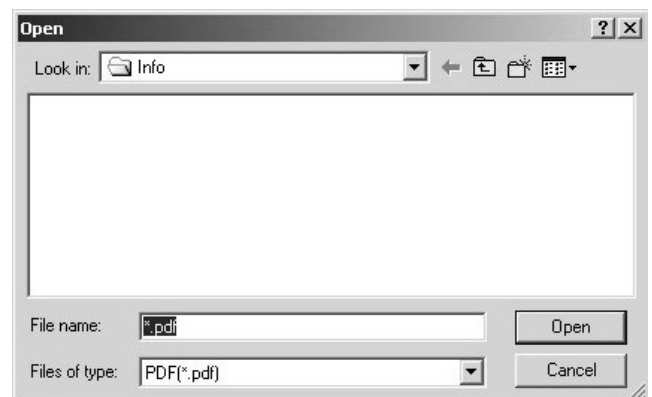

Fig.77
3. The Open dialog box appears. (Fig.77)